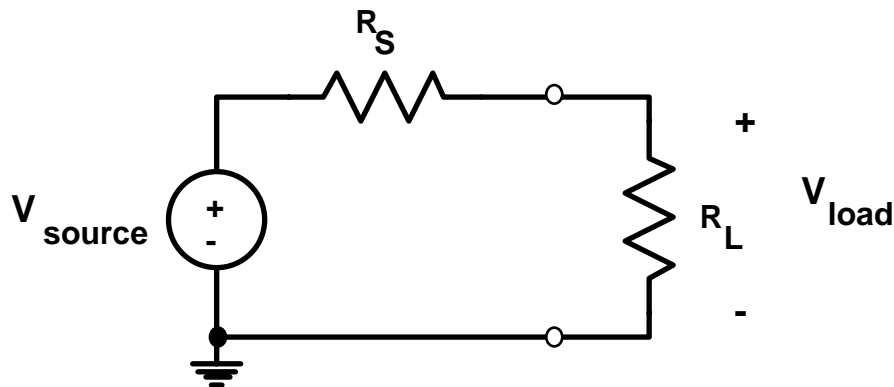

Figure 12.1
An arbitrary connection between a source and a load can be depicted as in Figure 12.1. NOTE that the voltage source and source resistance R_S could actually be the *Thévenin equivalent circuit* for a more complicated network.
(I) Use a symbolic math program (MAPLE) to plot V_{load} vs. R_L/R_S for the circuit of Figure 12.1 over the range $0.05 \leq (R_L/R_S) \leq 20$. If it is required that 90% of the voltage V_{source} appear across the load, what is the minimum ratio R_L/R_S ?
(II) Use a symbolic math program to plot P_{load} vs. R_L/R_S for the circuit of Figure 12.1 over the range $0.05 \leq (R_L/R_S) \leq 20$.
- (1) Assemble the circuit of Figure 12.1 using the bench power supply for V_{source} , $R_S = 330\Omega$, and $R_L = 1\Omega$. Use the multimeter to set V_{source} to 8 volts DC. Measure and record the voltage across R_L .
- (2) Now replace the 1Ω load resistor in turn with the nominal resistor values (one resistor per value) in your lab kit (10Ω , 100Ω , 220Ω , etc.) and record the load voltage. Remember to record the actual values of the resistors you use!